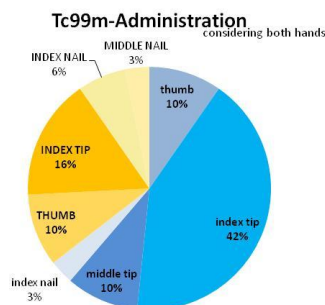

Figure 6: Example of plot for frequency of the position with max.dose. (hands together)
- f. Frequency of the position where the maximum dose is found for dominant and non dominant hand. This time **consider hands together**, so you will have 1 maximum point per worker. See example in Figure 6.